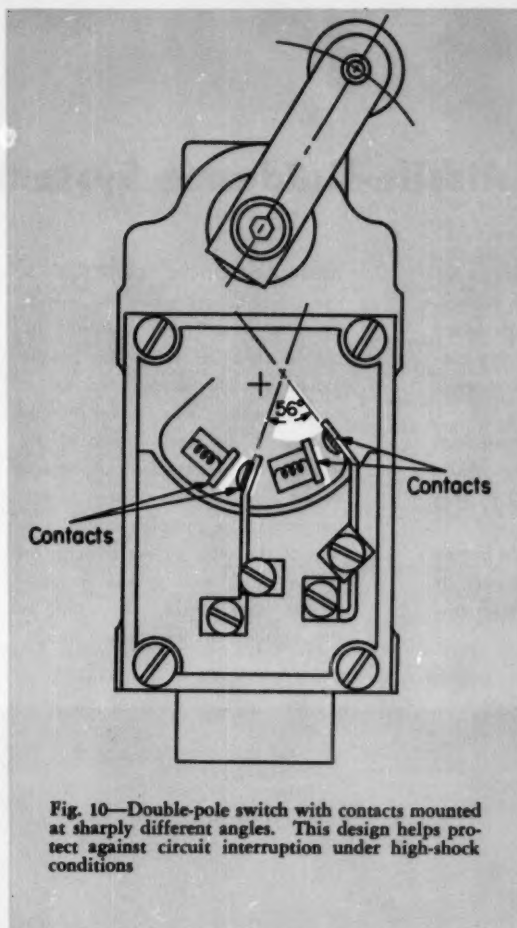

Fig. 10—Double-pole switch with contacts mounted at sharply different angles. This design helps protect against circuit interruption under high-shock conditions
**Shock and Vibration:** In many applications, particularly on heavy punch presses and die presses, electrical circuits may be interrupted by shock and vibration from the impact of the presses. Under these circumstances careful consideration must be given to the mounting position of a limit switch. Low contact mass and high contact pressure are also very important under these adverse operating conditions. Wherever possible the switch should be installed so that the direction of shock forces is in an entirely different plane from the direction in which the switch contacts open or close. Where this is not possible, the use of a double-pole switch designed with contacts operating at sharply different angles and wired in parallel may be a solution, Fig. 10.